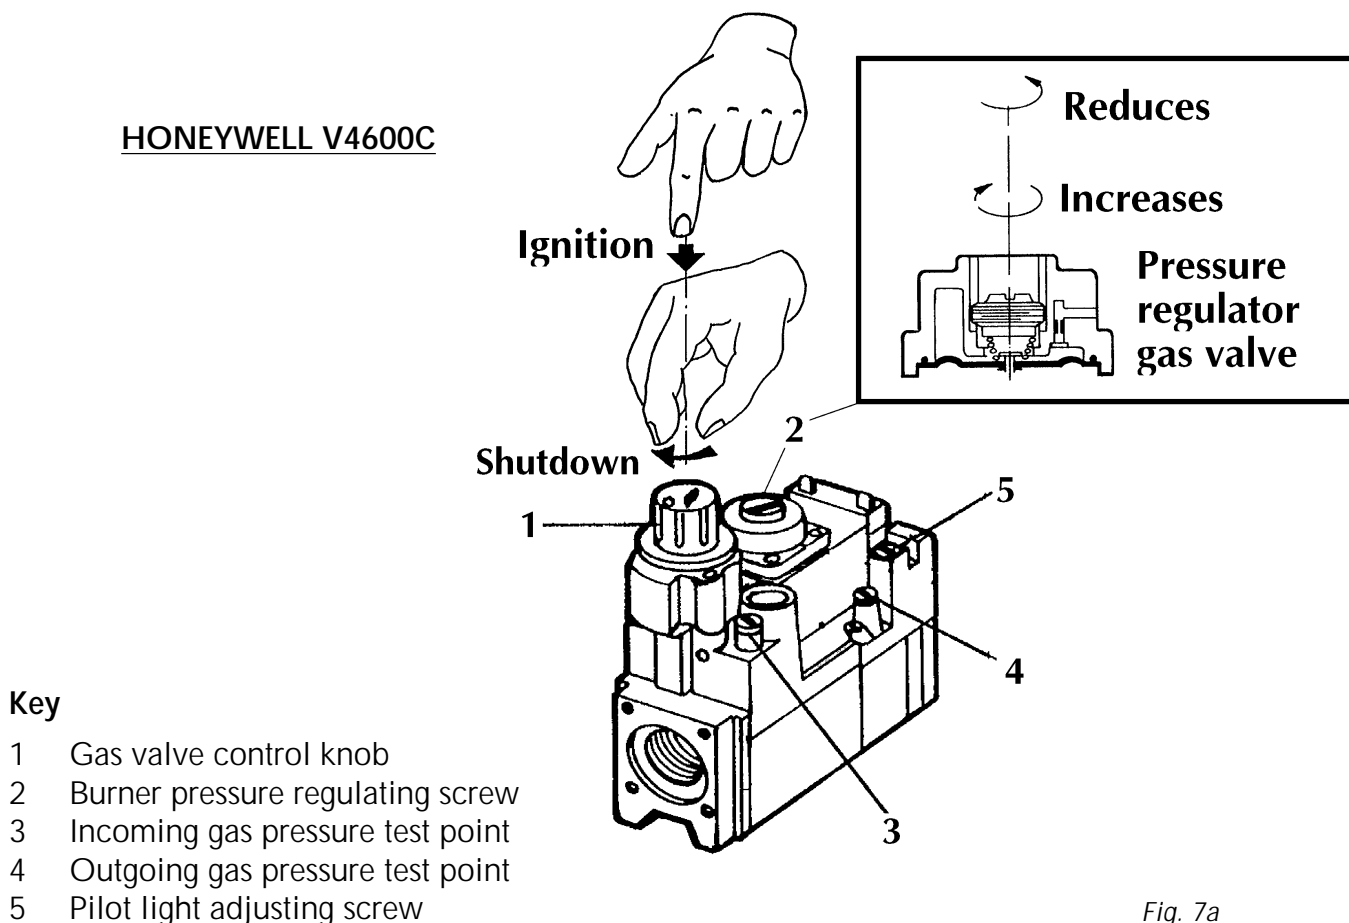

Fig. 7a
5.02 Startup with the HONEYWELL V4600C valve in models 51-68 (fig. 7a)
Release the air held in the gas pipes by opening the incoming gas valve test point marked with the number 3 (fig. 7a).
Turn knob 1 as indicated in fig. 7a - 7b (in models 51-68), press button 5 as indicated in fig. 7c (in models 85-102). This turns off the flow of gas to both the main burner and the pilot light. Turn off the gas cock upstream from the boiler and switch off the power supply.
- Make sure the pilot light is adequate and well adjusted; if it is not, adjust it using the gas valve adjusting screw (fig. 7a-7b-7c).
Adjust the burner pressure at the main burners by turning screw 2 (fig. 7a): turn it clockwise to increase the burner pressure and anticlockwise to decrease it. (burner pressure test point 11 fig. 2a/2b).
The pilot light may be adjusted by eye, without the use of instruments, by checking that the flame correctly envelopes the thermocouple without burning excessive gas. To adjust the flame, turn screw 5 (fig. 7a). To convert the boiler from NATURAL GAS to LPG, besides replacing the injectors you should carefully set the pressure regulating screw 2 all the way in.